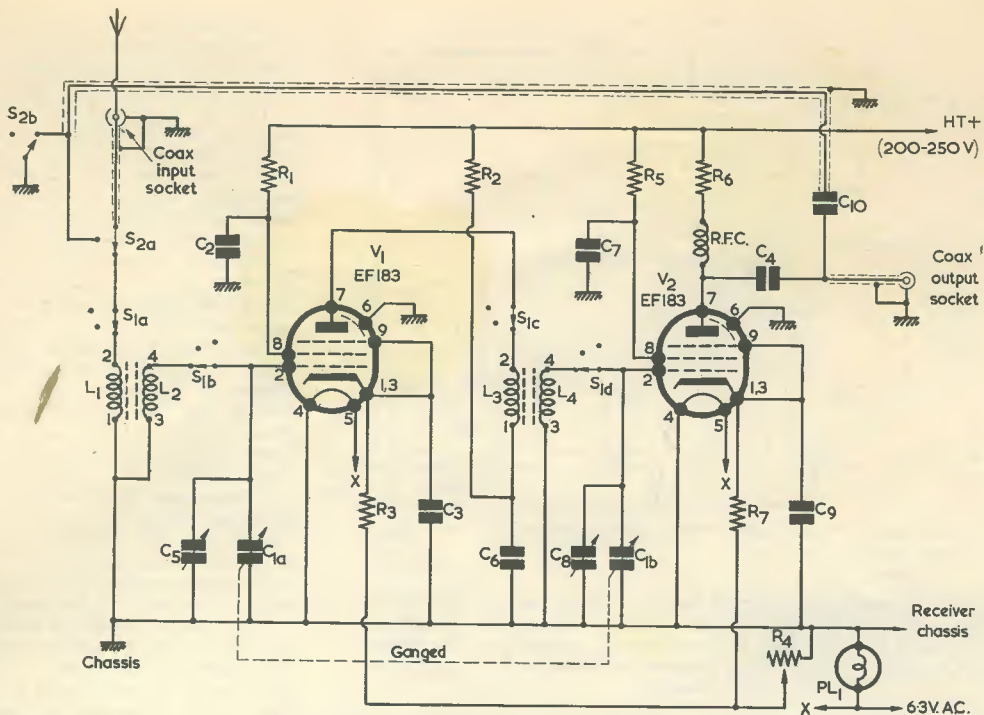
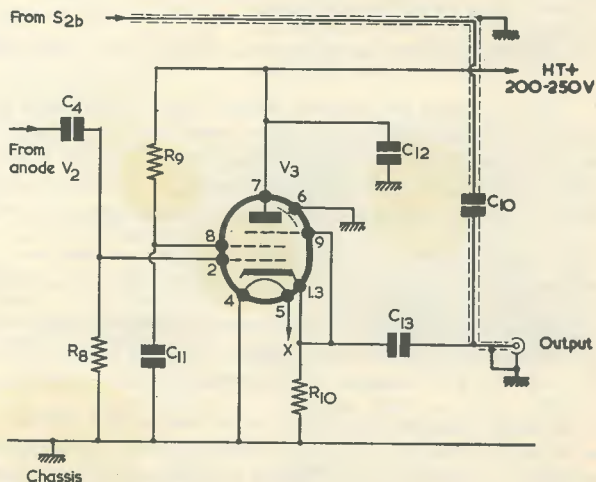

Fig. 8. Circuit of the 2-valve pre-selector
Fig. 13. Circuit of the added cathode follower stage
The circuit for the 2-valve pre-selector is shown in Fig. 8. It should be noted that all the components used in the circuit of Fig. 1 (published last month) have been given the same designations (e.g. R4 is the gain control in both versions). This has been done in order to avoid con-
A careful study of Fig. 8 will reveal that the circuit around V1 is nearly (but not quite) identical to that in Fig. 1, that both V1 and V2 have nearly similar circuits, and that the gain control R4 is common to both stages.
**Components List (Fig. 8)**
Fig. 10 shows the connections to the coils ( $L_3$  and  $L_4$  in Fig. 8) and it will be noted that these are somewhat different from those needed for  $L_1$  and  $L_2$ . In the present instance, the primary winding ( $L_3$ ) carries the h.t. potential to the anode of  $V_1$  and the bottom end of this winding is bypassed to chassis via  $C_6$ . The secondary winding ( $L_4$ ) is connected in the same manner as was  $L_2$ . Connections to the switch are also shown.
The third stage, shown in Fig. 13, is a cathode follower, and its function is to provide an improved impedance match between the output of the pre-selector of Fig. 8 and the aerial terminals of the receiver at all frequencies covered by the unit.
To introduce the cathode follower stage, capacitor  $C_4$  should be disconnected from the coaxial output socket (see Fig. 8) and connected direct to the grid of  $V_3$  (pin 2),  $R_8$  being taken from this pin to chassis (the earth tag at  $V_3$  valveholder).
#### Components List (Fig. 13)